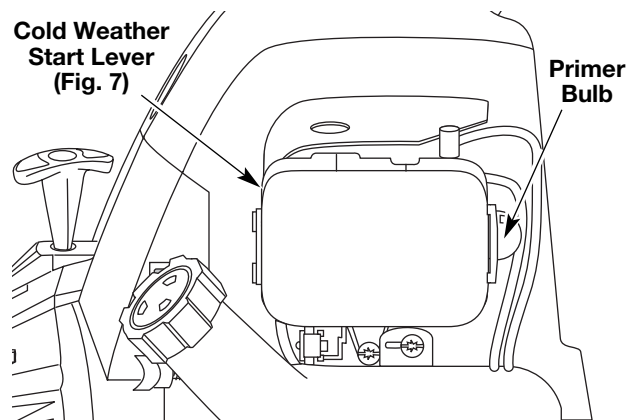

Fig. 8
4. Fully press and release the primer bulb 10 times, slowly. Some amount of **fuel should be visible in the primer bulb** and fuel lines (Fig. 8). If you can't see fuel in the bulb, press and release the bulb as many times as it takes before you can see fuel in it.